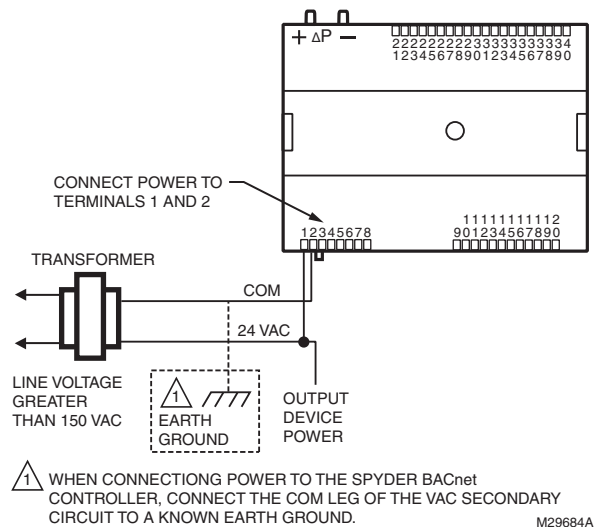
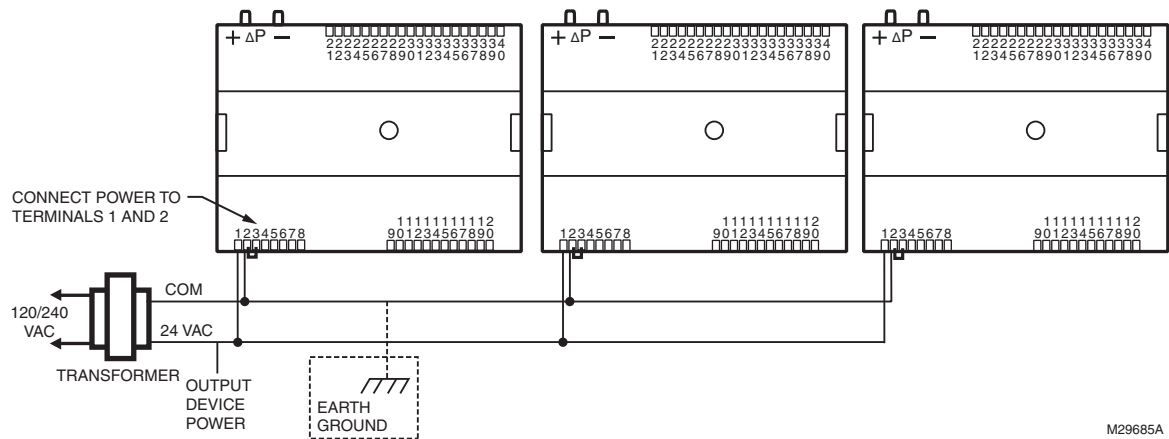

Fig. 11. Power wiring details for one controller per transformer.
Fig. 12. Power wiring details for two or more controllers per transformer.
- When multiple controllers operate from a single transformer, connect the same side of the transformer secondary to the same power input terminal in each device. The earth ground terminal (terminal 3) must be connected to a verified earth ground for each controller in the group (see Fig. 12 on page 10).
See Fig. 11–Fig. 12 beginning on page 9 for illustrations of controller power wiring. See Table 4 for VA ratings of various devices.
- For multiple controllers operating from a single transformer, the same side of the transformer secondary must be connected to the same power input terminal in each device. The earth ground terminal must be connected to a verified earth ground for each controller in the group (see Fig. 12 on page 10). Controller configurations are not necessarily limited to three devices, but the total power draw, including accessories, cannot exceed 100 VA when powered by the same transformer (U.S. only).
- See Fig. 11 on page 9 for controller power wiring used in UL 1995 equipment (U.S. only).
- Keep the earth ground connection wire run as short as possible (refer to Fig. 11–Fig. 12 beginning on page 9).
- Do not connect earth ground to the controller's digital or analog ground terminals (refer to Fig. 11 and Fig. 12).
- For multiple controllers operating from a single transformer, the same side of the transformer secondary must be connected to the same power input terminal in each controller. Controller configurations will not necessarily be limited to three devices, but the total power draw, including accessories, cannot exceed 100 VA when powered by the same transformer (U.S. only). For power and wiring recommendations, See "Power" on page 7. The earth ground terminal (terminal 3) must be connected to a verified earth ground for each controller in the group (see Fig. 12 on page 10).
Fig. 11 depicts a single controller using one transformer.
Connect terminal 2, (the 24 Vac common [24 VAC COM] terminal) to earth ground (see Fig. 11).
More than one controller can be powered by a single transformer. Fig. 12 shows power wiring details for multiple controllers.